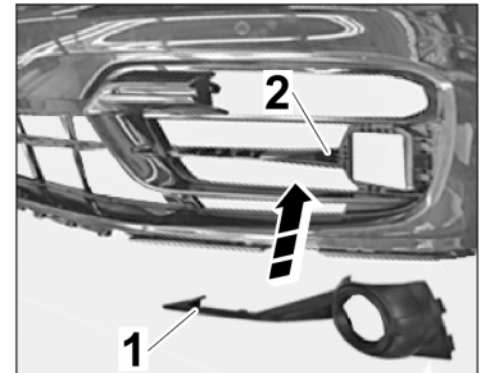

Figure 37
5.1.2 Install ACC trim into each air grille (left/right) (⇒ *Figure 37*).